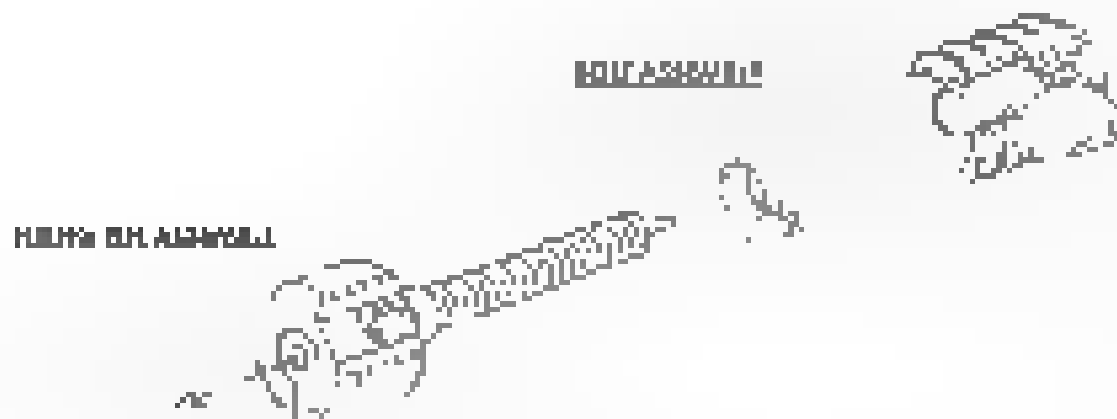

Figure 11
- 5** Separate the firing pin assembly from the bolt assembly. (Figure 11)